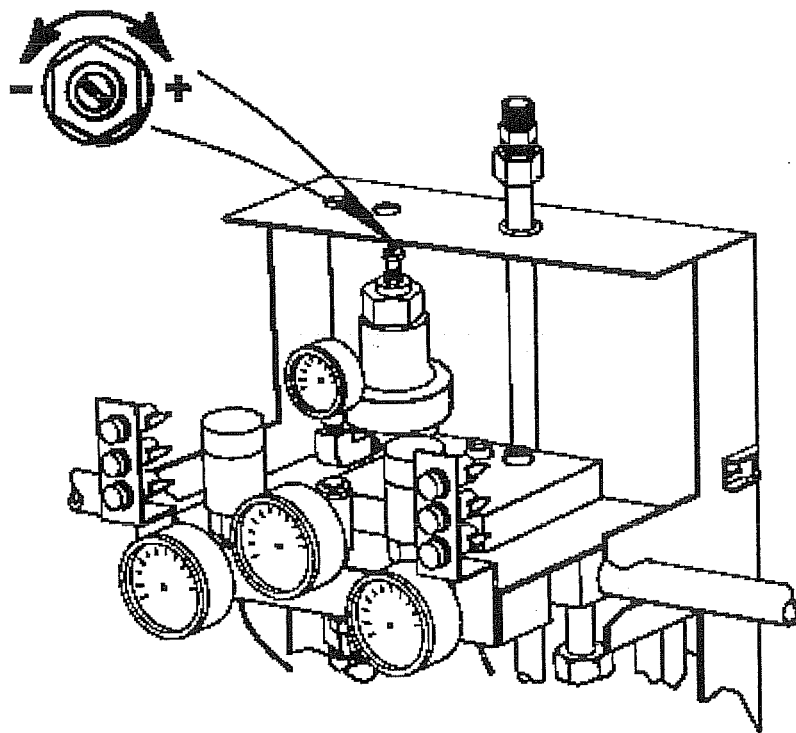

Figure 4-2
4. Remove the plug from the end of the regulator to gain access to the 1/4" allen head adjustment screw. (Figure 4-2)